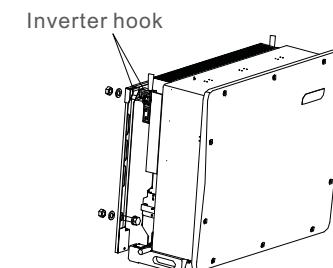

Figure 3.7 Install the inverter
1. Refer to Figure 3.7, drill holes for mounting screws based on the hole diameter of bracket using a precision drill keeping the drill perpendicular to the wall.